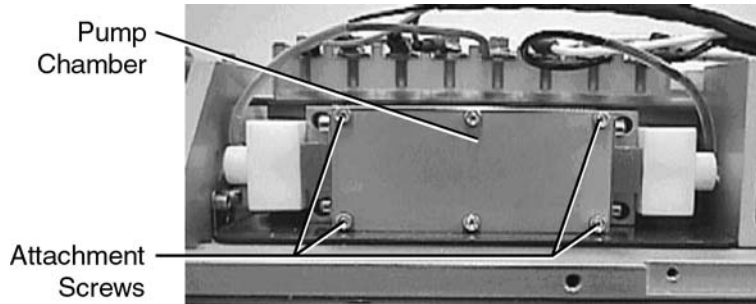
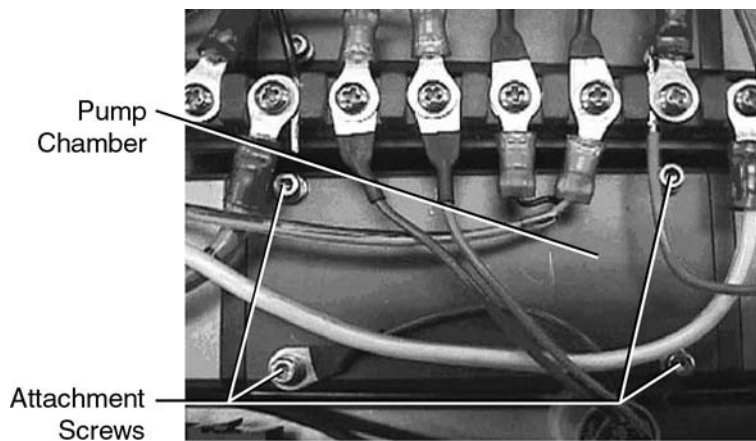

Figure 5-4: Pump Chamber Attachment Screws for Solo I, II, III
Figure 5-5: Pump Chamber Attachment Screws for Solo 120 and IV
- 4) There are four screws, accessible from the side (Solo I, II, III, 1V), that secures the pump chamber to the base plate – see Figure 5-4. The four screws that secure the pump chamber for the Solo 120 are located on the top of pump chamber for pump chamber see Fig 5-5.
- 6) Remove the pump chamber end caps that secure the flashlamp within the pump chamber, Figure 5-5.